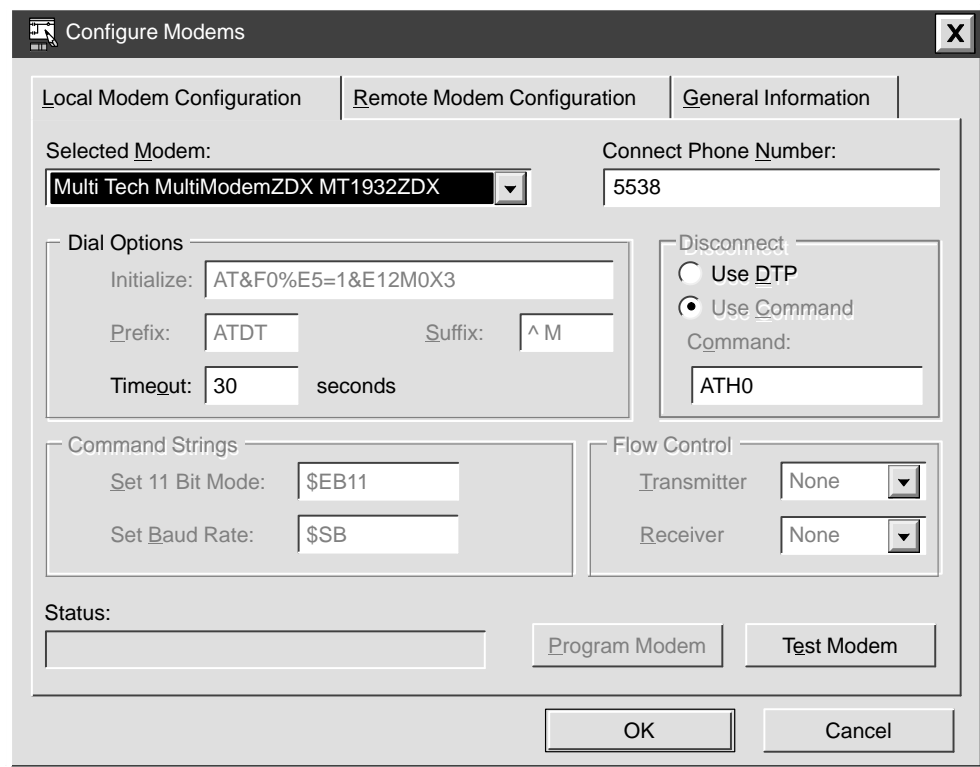

Figure 3-16 Local Modem Configuration Tab of the Configure Modems Dialog Box
9. Click the Local Modem Configuration tab. See Figure 3-16.